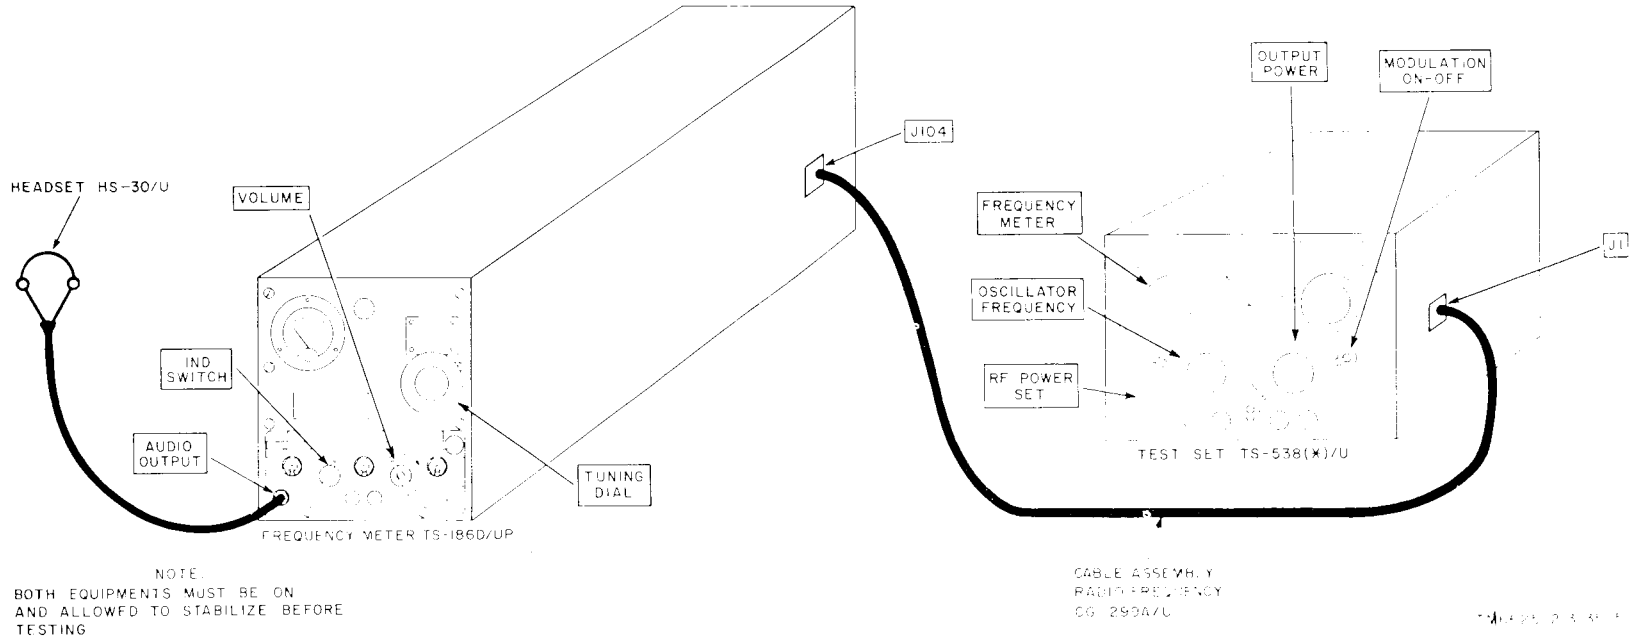

Figure 29. Frequency meter and oscillator frequency test connections.
- (1) Connect the equipment as shown in figure 29.
- (2) Allow the equipment to heat at least 30 minutes before test procedure is started.